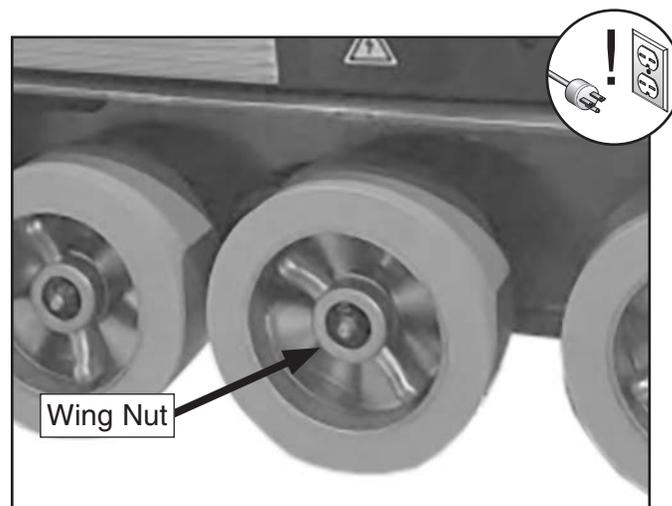

Figure 41. Roller wing nuts location.
2. Remove wing nut that secures roller (see **Figure 41**).